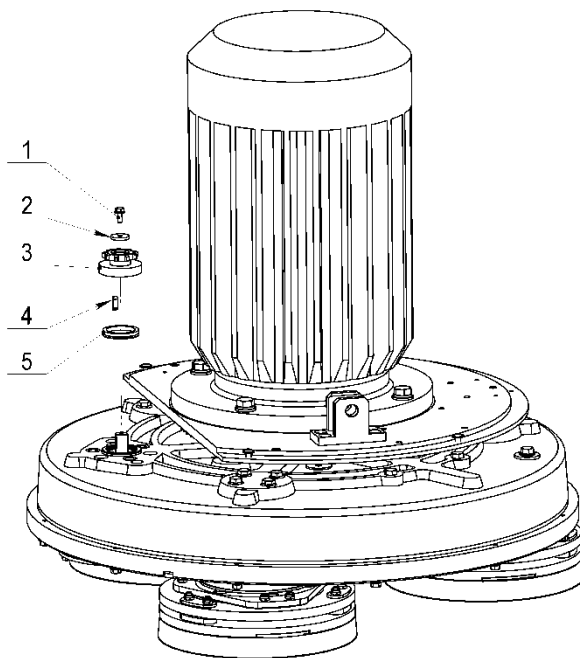

Figure 8.7.1
Unscrew bolt (1) and remove the chain pulley (3) with the sealer (5). Change the sealer, and mount it to the chain pulley (3). Apply lithium grease on the shaft and mount back the wheel and the front washer (2) as shown on (Fig.8.7.1). Screw the bolt using the "blue" thread locking adhesive. Tightening force on the bolts should be 9...11N.m(6.6...8 ft-lbf).